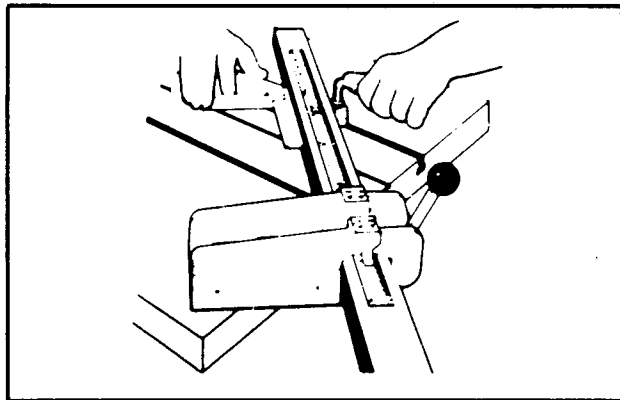

FIG. 35. UNIVERSAL CALIBRATED WORK FIXTURE SET UP FOR ANGLE CUT-OFF.
- (1) Remove right T-nut and screw from bar. Loosen left screw.
- (2) Turn fixture to desired angle and tighten left screw. Mount collar against bar. Tighten right T-nut and screw. See Fig. 35.